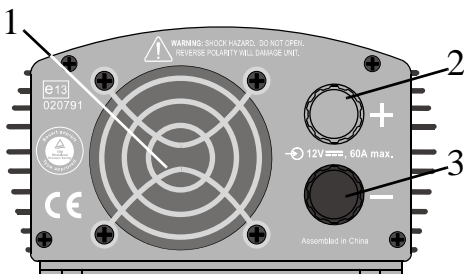
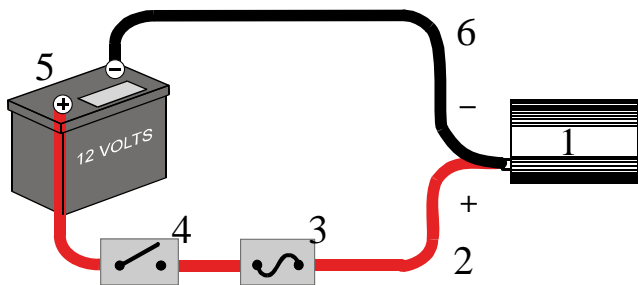

Figure 5 DC Panel on the XPower 500
Figure 6 Hardwiring the XPower 500 to a 12 Volt Battery
Fan The fan (see Figure 5) turns on when an AC load of 100 watts or higher is plugged in.
Refer to Figure 5 and Figure 6 when you connect the inverter.
A hardwired installation is illustrated in Figure 6.
3. Install an 80 amp automotive fuse and a switch rated at 80 amps in the positive (red) wire, close to the end that will attach to the battery. See Figure 6. The switch lets you disconnect the DC power if you need to replace the in-line fuse. Solder and insulate the connections as detailed in Step 2 above.
- If you need to replace the in-line fuse (Figure 6), turn off the in-line switch to disconnect the DC power.